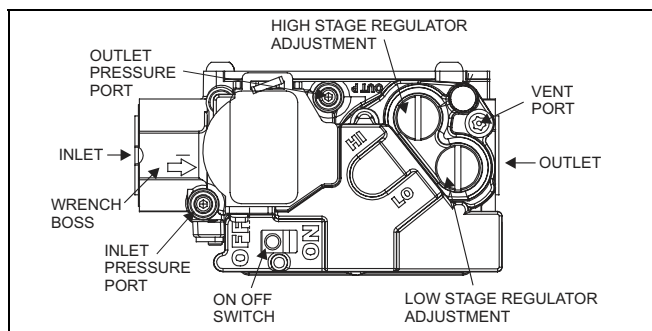

FIGURE 2 - Two Stage Gas Valve
1. Refer to Figure 2 for location of pressure regulator adjustment cap and adjustment screws on main gas valve.